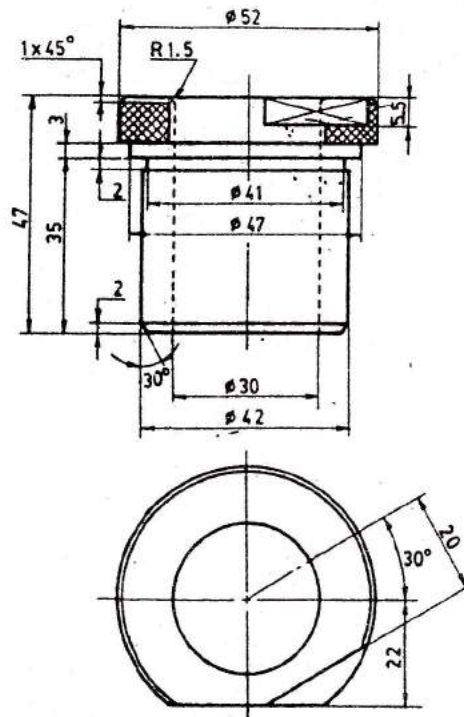

Figure 1
- (a) Draw a production drawing for a slip bush as figure 1, incorporating following requirements :